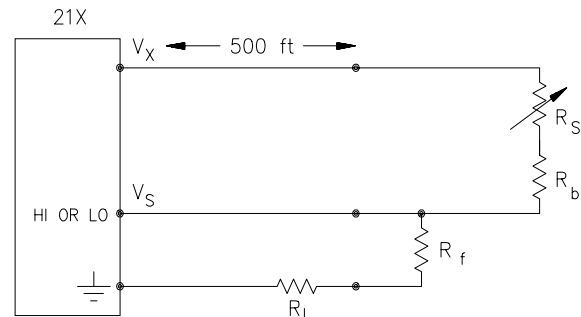

FIGURE 13.3-9. Incorrect Lead Wire Extension on Model 107 Temperature Sensor
6. Most Campbell Scientific sensors are configured with a small bridge resistor, R_f , (typically 1 kohm) to minimize the source resistance. If the lead length of a Campbell Scientific sensor is extended by connecting to the pigtails directly, the effect of the lead resistance, R_l , on the signal must be considered. Figure 13.3-9 shows a Campbell Scientific Model 107 sensor with 500 feet of extension lead connected directly to the pigtails. Normally the signal